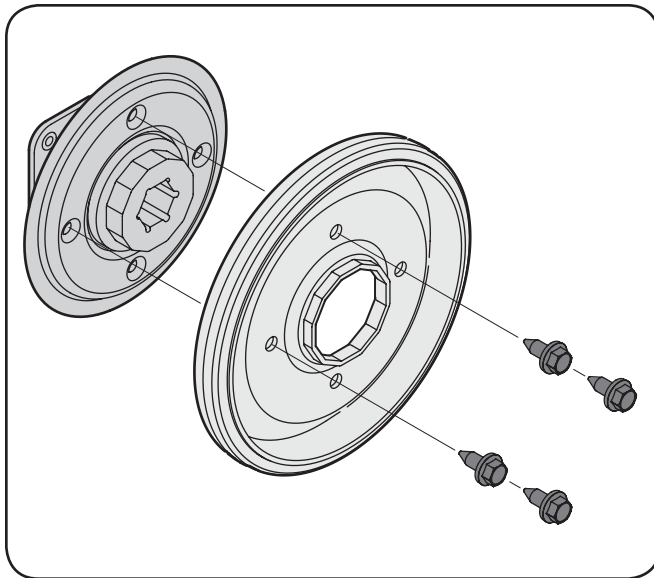

Figure 7-11
7. Remove four screws securing the friction wheel to the hub assembly (refer to Fig. 7-11). Discard old friction wheel.
8. Reassemble the new friction wheel onto the hub assembly, tightening the four screws in rotation to 6-9 ft.-lbs. It is important to assemble the friction wheel symmetrically for proper functioning. Refer to Fig. 7-11.